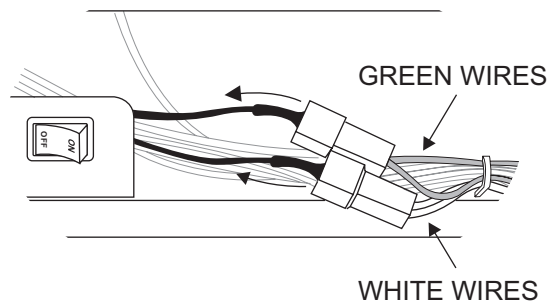

Figure 19
**"IP" Valve** - Locate the two 5-1/2-inch long black wires connected to the ON/OFF switch. Disconnect these two black wires at the green and white wire connections. Attach the flag terminals (the low voltage wire assembly found in the Instruction Packet) to the green and white wire connections. **See Figures 19 and 20.**
- b. For IP valve connections, locate the green and white wires from the control module, then connect the switch wire flag terminals to the green and white wire terminals. **See Figures 19 and 20.**